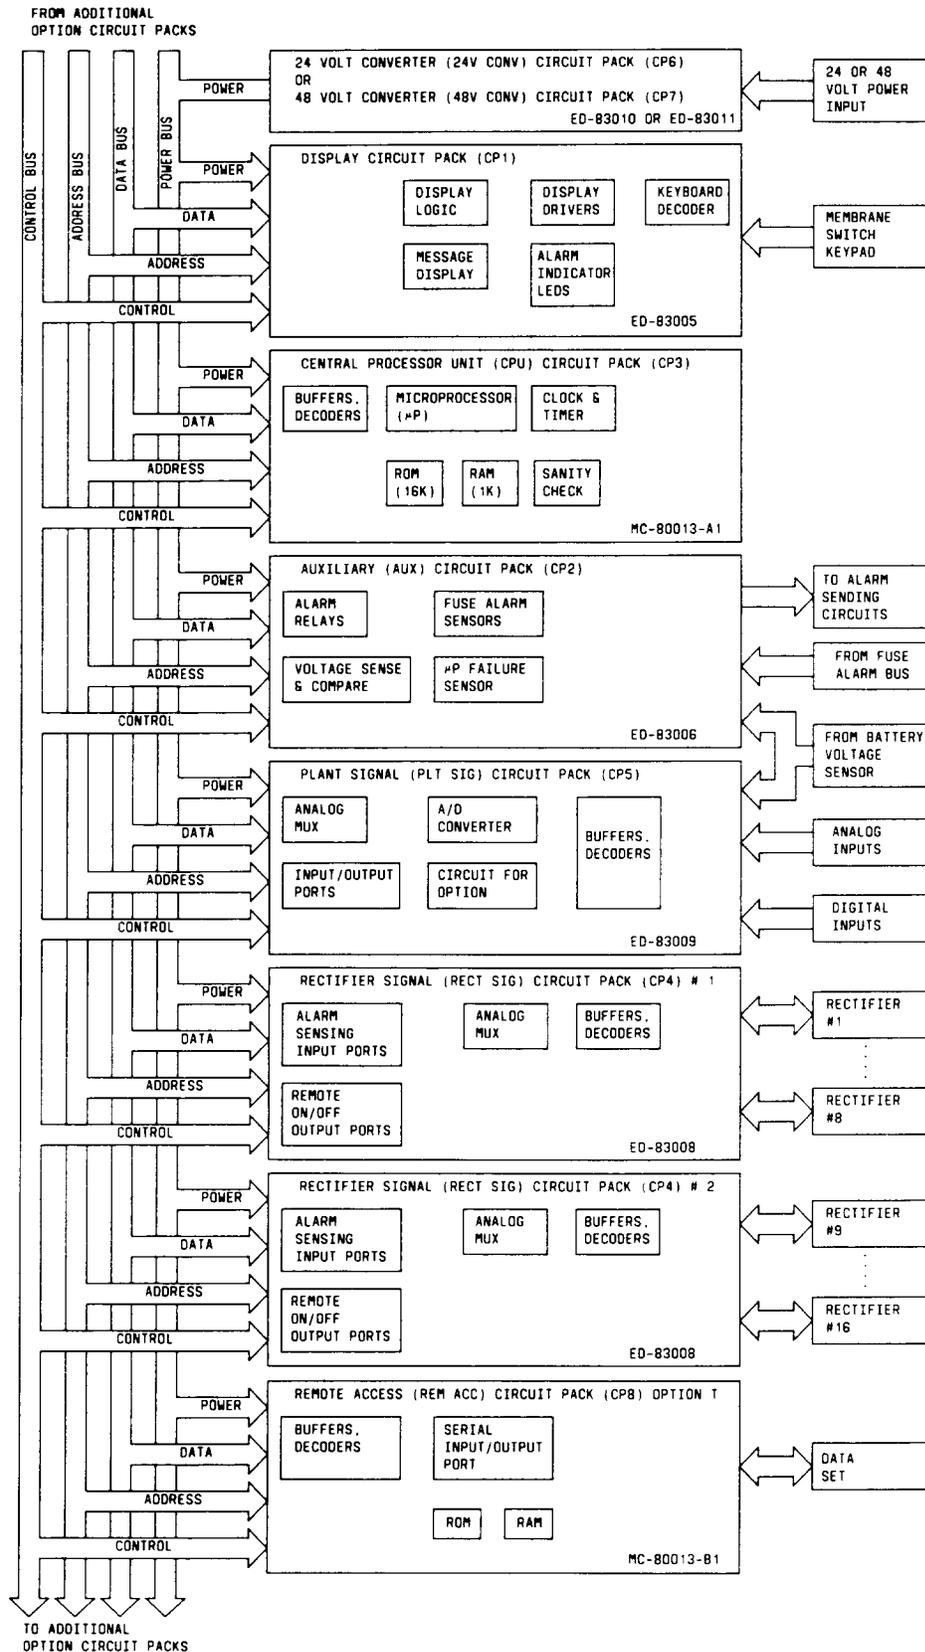

Fig. 5—Smart Plant Controller Block Diagram
**3.04 *General:*** The smart plant controller uses a microprocessor based technology controller to manage the plant. Refer to Fig. 5 for the smart plant controller block diagram. The plant load current and float voltage are monitored to determine float voltage and load/recharge requirements. Individual rectifiers are monitored and checked continuously for rectifier data, status, output current, alarms, and malfunctions. Periodically, the microprocessor runs a self-diagnostic test and a system test to detect malfunctions.